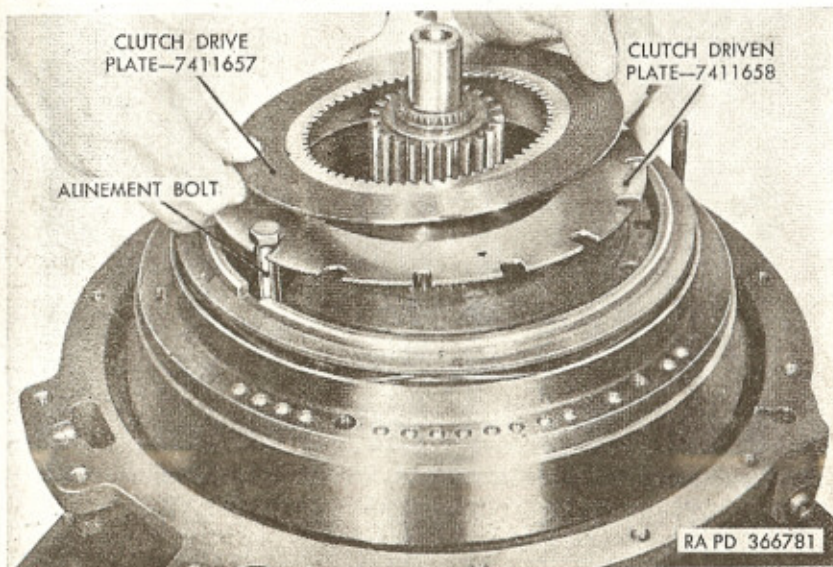

Figure 216. Installing reduction clutch plates (303M).
m. Temporarily install one of the $\frac{3}{8}$ x 3 bolts which attach reduction unit internal gear to clutch drum in reduction unit clutch drum. This will act as a guide for installing the clutch driven plates (fig. 216) in reduction unit clutch drum.
n. Install clutch plates in reduction unit clutch drum. There are seven bronze clutch drive plates and six steel clutch driven plates (fig. 216). Start with a bronze plate; then alternate plates, ending with a bronze plate. Square notches of steel plates must index with tapped holes of reduction unit clutch drum. The concave side of all steel plates must face in the same direction, either up or down.